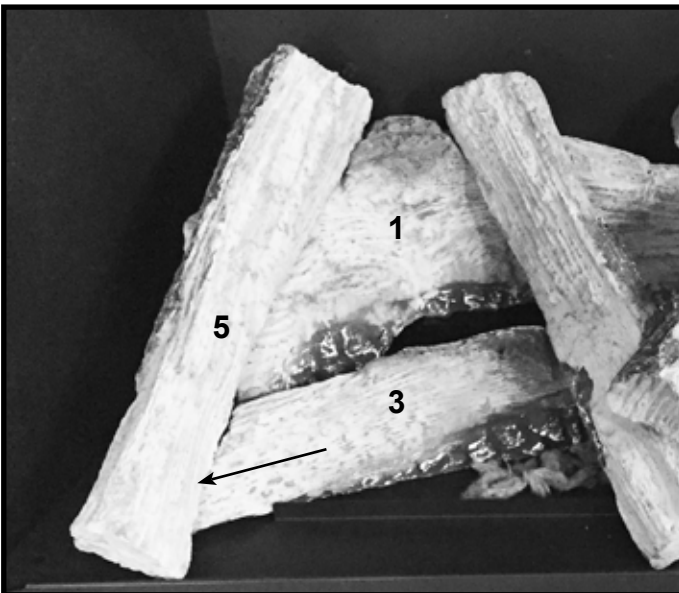

Figure 10. QUARTZ32: Install Top Left Log
8. **QUARTZ32 ONLY:** Locate and install Top Left Log (5). This Log does not have any “burn out” features painted on the log. The “left” end of this log will rest on the “left” side of the Left Front Base Log and the “right” end will rest on the “left” end of Left Rear Base Log. See Figure 10.